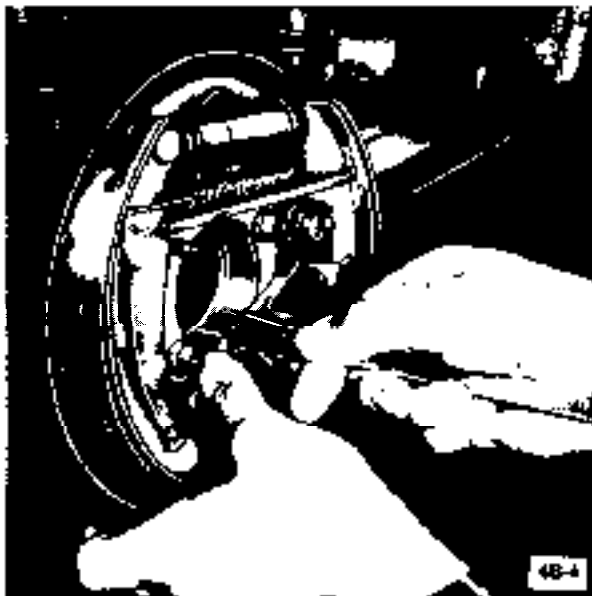

Figure 4B-4 Measuring for Axle Shaft Bearing Depth
a. Using a depth gauge, measure depth of rear axle bearing seat in axle housing (backing plate and gaskets in place). See Figure 4B-4.